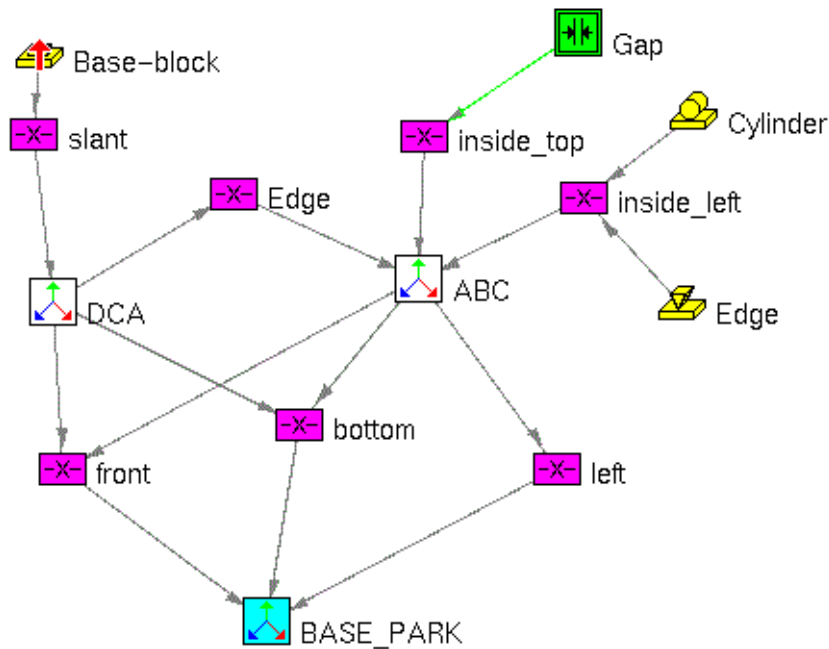

Figure 3.2
11. Your final *Part Network Diagram* should look like figure 3.2